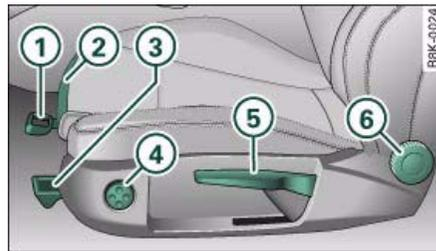

Fig. 75 Adjuster controls on driver's seat
- Lift the lever ① ⇒ fig. 75 and move the seat to the desired position.
- Then release the lever ① and move the seat further until the catch engages.
- Pull the lever ③ ⇒ fig. 75 up or down repeatedly (i.e. pump the lever).
- Pull the lever (5) ⇒ page 73, fig. 75 up or down repeatedly (i.e. pump the lever).
- Turn the adjuster wheel (6) ⇒ page 73, fig. 75 to set the angle of the backrest as required.